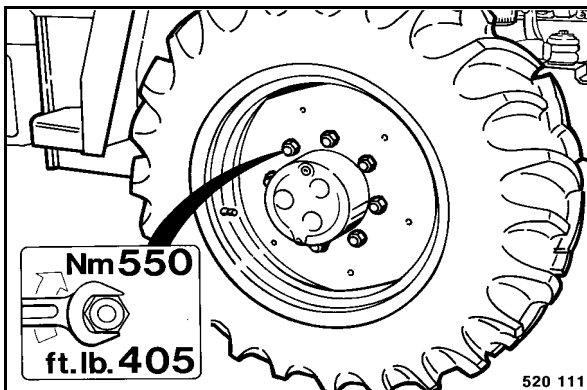

Fig. 169
- Tighten the wheel nuts (Fig. 169) in a cross-type pattern.